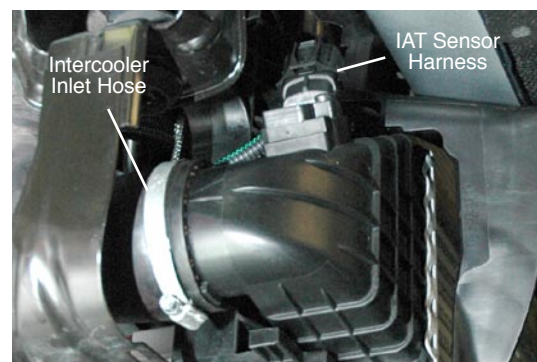

Figure 3.2
- Locate the intercooler inlet hose. This hose is located on the left side (viewed from front of vehicle) of the intercooler (see Fig. 3.2).
- Locate wiring harness connected to Intake Air Temperature (IAT) sensor (see Fig. 3.2).